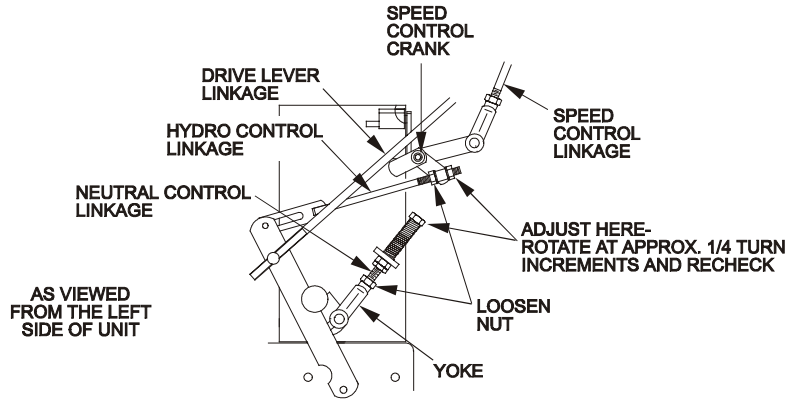
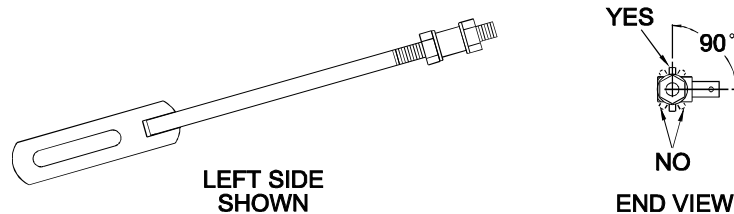

FIGURE 19
FIGURE 20
2. Move the speed control lever (located on the console) to the full forward position and check the orientation of the tabs on the ends of the speed control crank (Figure 19). These tabs should be pointing straight down at the 6 o'clock position or slightly forward. Adjust the threaded yoke at the bottom of the speed control linkage (See Figure 19) until the tabs are positioned correctly.
4. Loosen the nut against the neutral control linkage yoke as shown in Figure 19.
2. Loosen the front nut on **left** hydro control linkage as shown in Figure 19. Turn the rear control linkage adjusting nut counter-clockwise until wheel rotates forward. Turn the rear nut of left control linkage clockwise 1/4 of a turn at a time, stopping to move the speed control forward and back to neutral, until left wheel stops rotating forward. Turn the rear nut an additional 1/2 turn and tighten the front nut making sure not to put a bind on the linkage. Make sure flat part of linkage is perpendicular to pin part of swivel. See Figure 20.